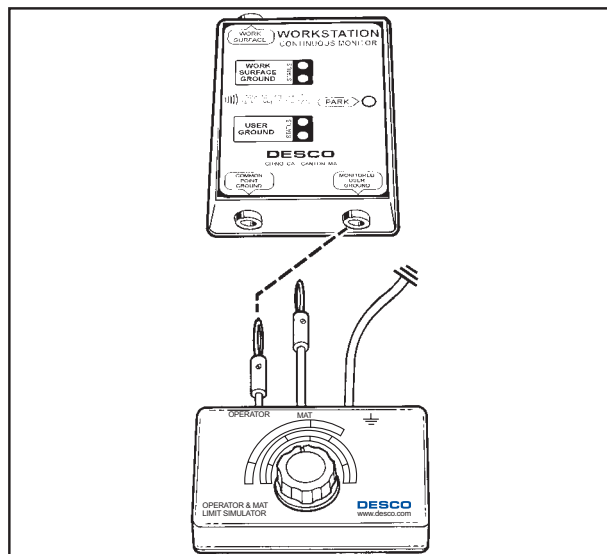

Figure 2. Connecting test lead from 98220 to 19225.
Step 2: Insert the calibration unit's banana plug marked "Operator" into the jack marked "Monitored User Ground" on the 19225 tester. See figure 2.